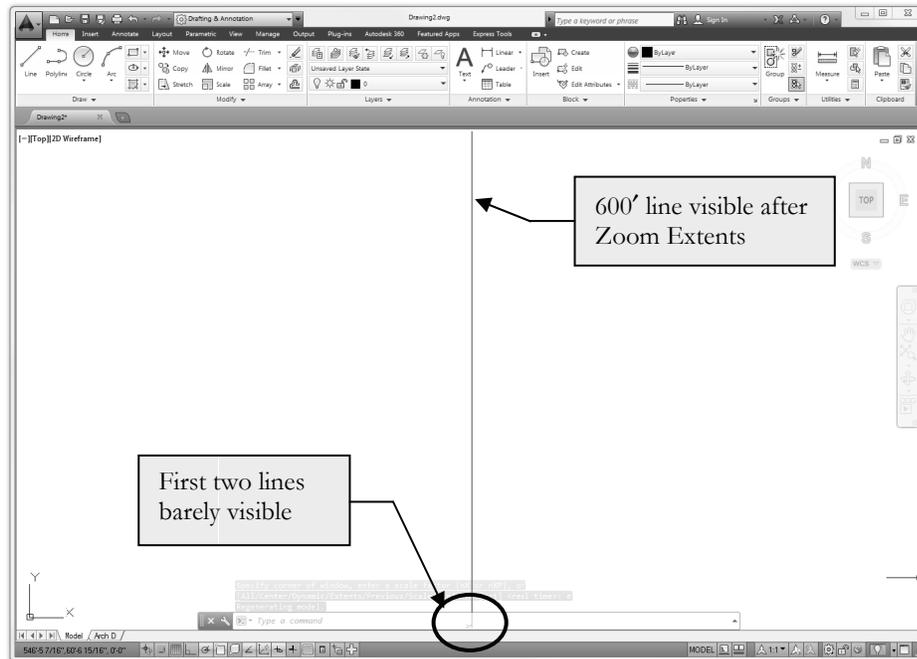

FIGURE 2-1.12 Drawing with three lines
25. Use **Zoom Extents** to see the entire drawing (Figure 2-1.12) – *View* tab, *Navigate* panel (or double-click the center wheel mouse button).